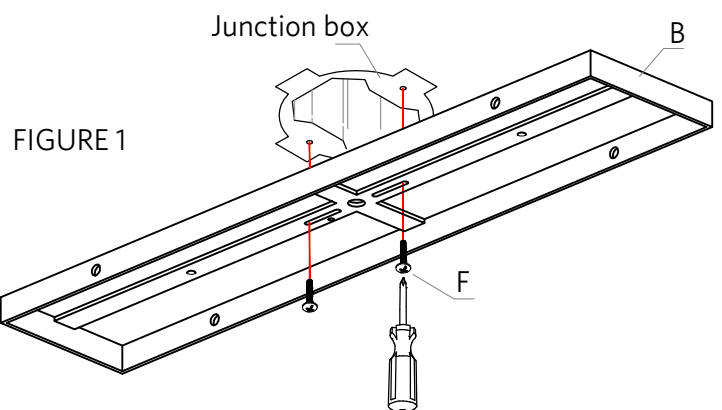

FIGURE 1
1. Attach the hanger bar to the junction box in the ceiling using the 2 Philips head bolts (F) provided, see figure 1. There is also a small piece of all-thread and 2 nuts which can add stability. Again, make sure your junction box can hold 30kg in weight. FIGURE 1.